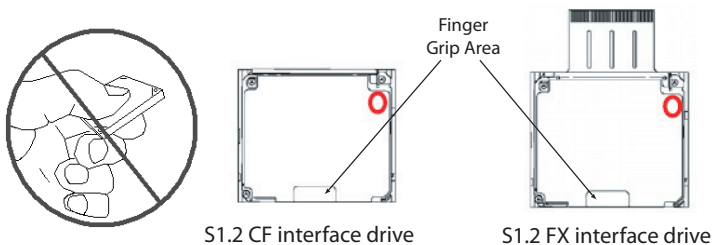

Figure 1 ST1.2 Series—Finger grip areas
- ST1.2 Series disc drives are fragile. Do not drop or jar the drive. Handle the drive only by the edges or by the finger grip area shown in Figure 1. Keep the device in the packaging until you are ready to install it and between uses to minimize handling damage.